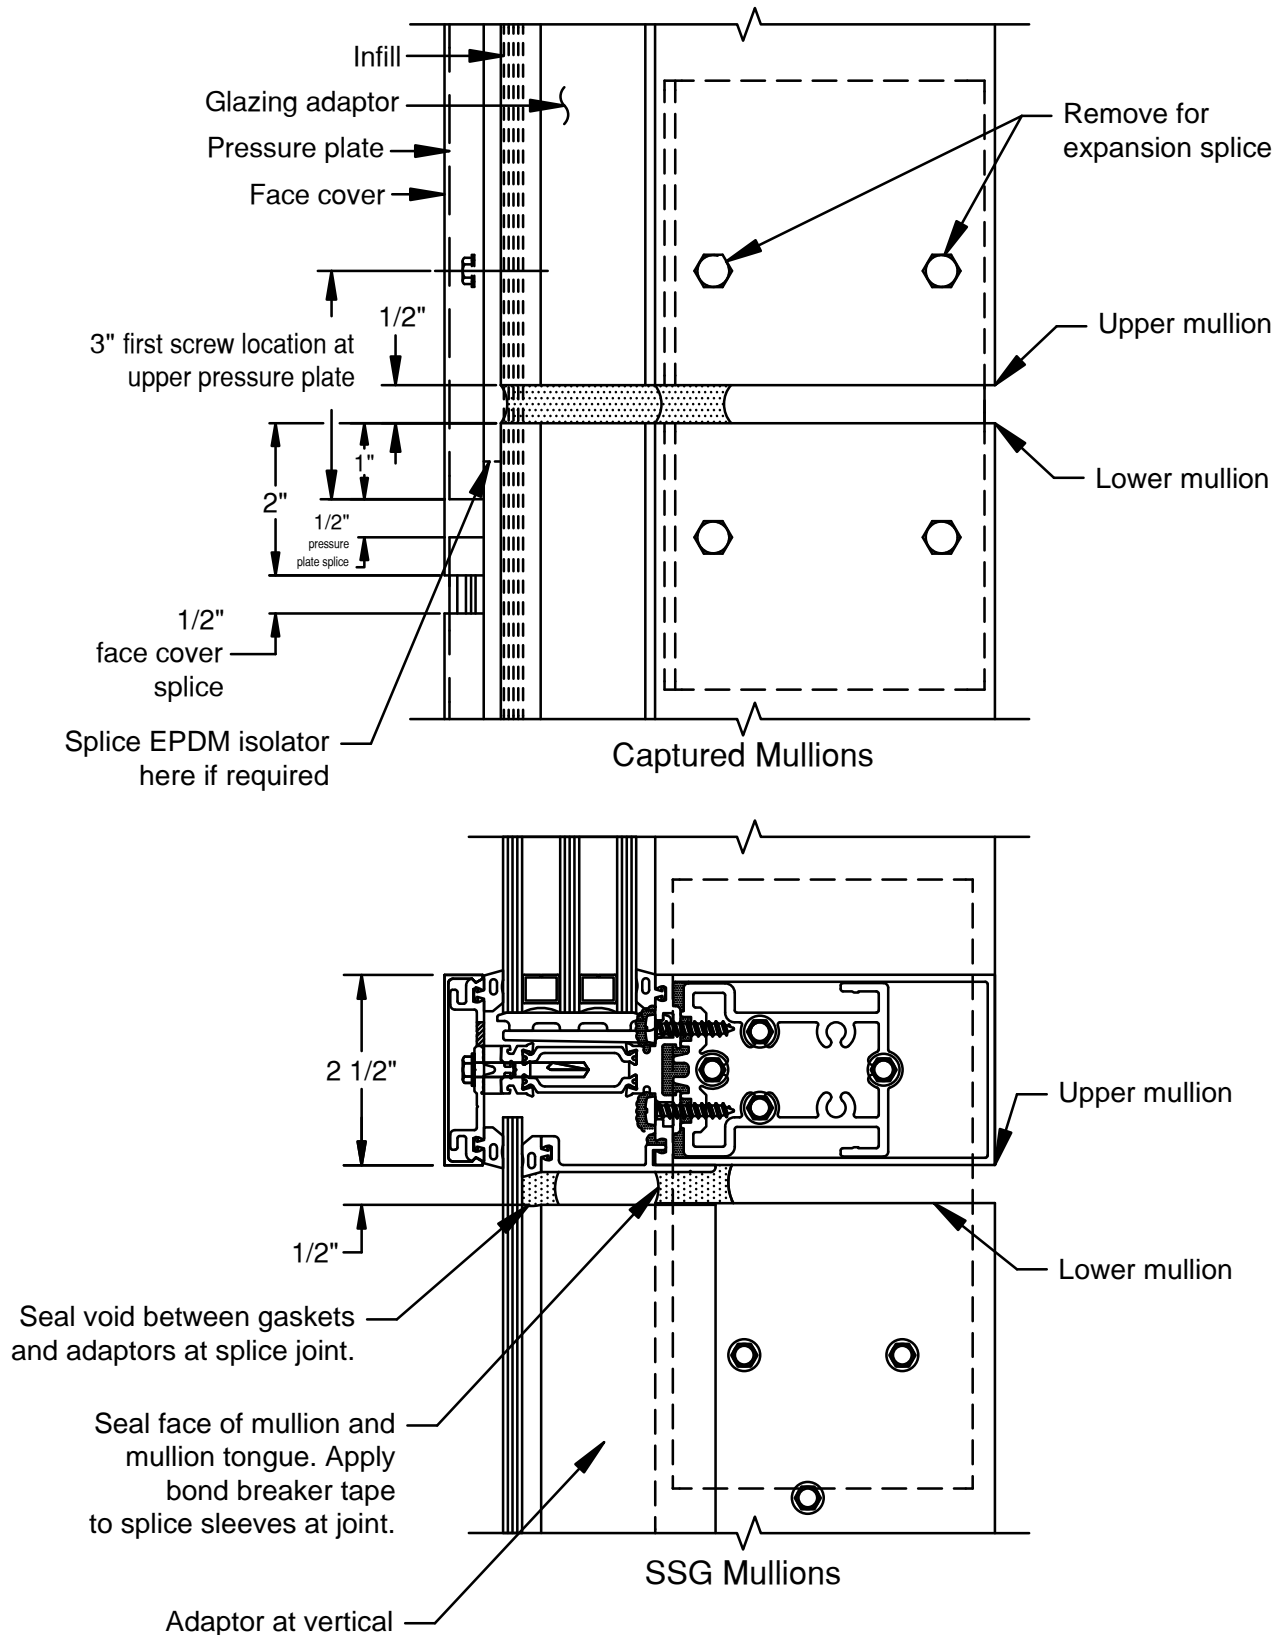
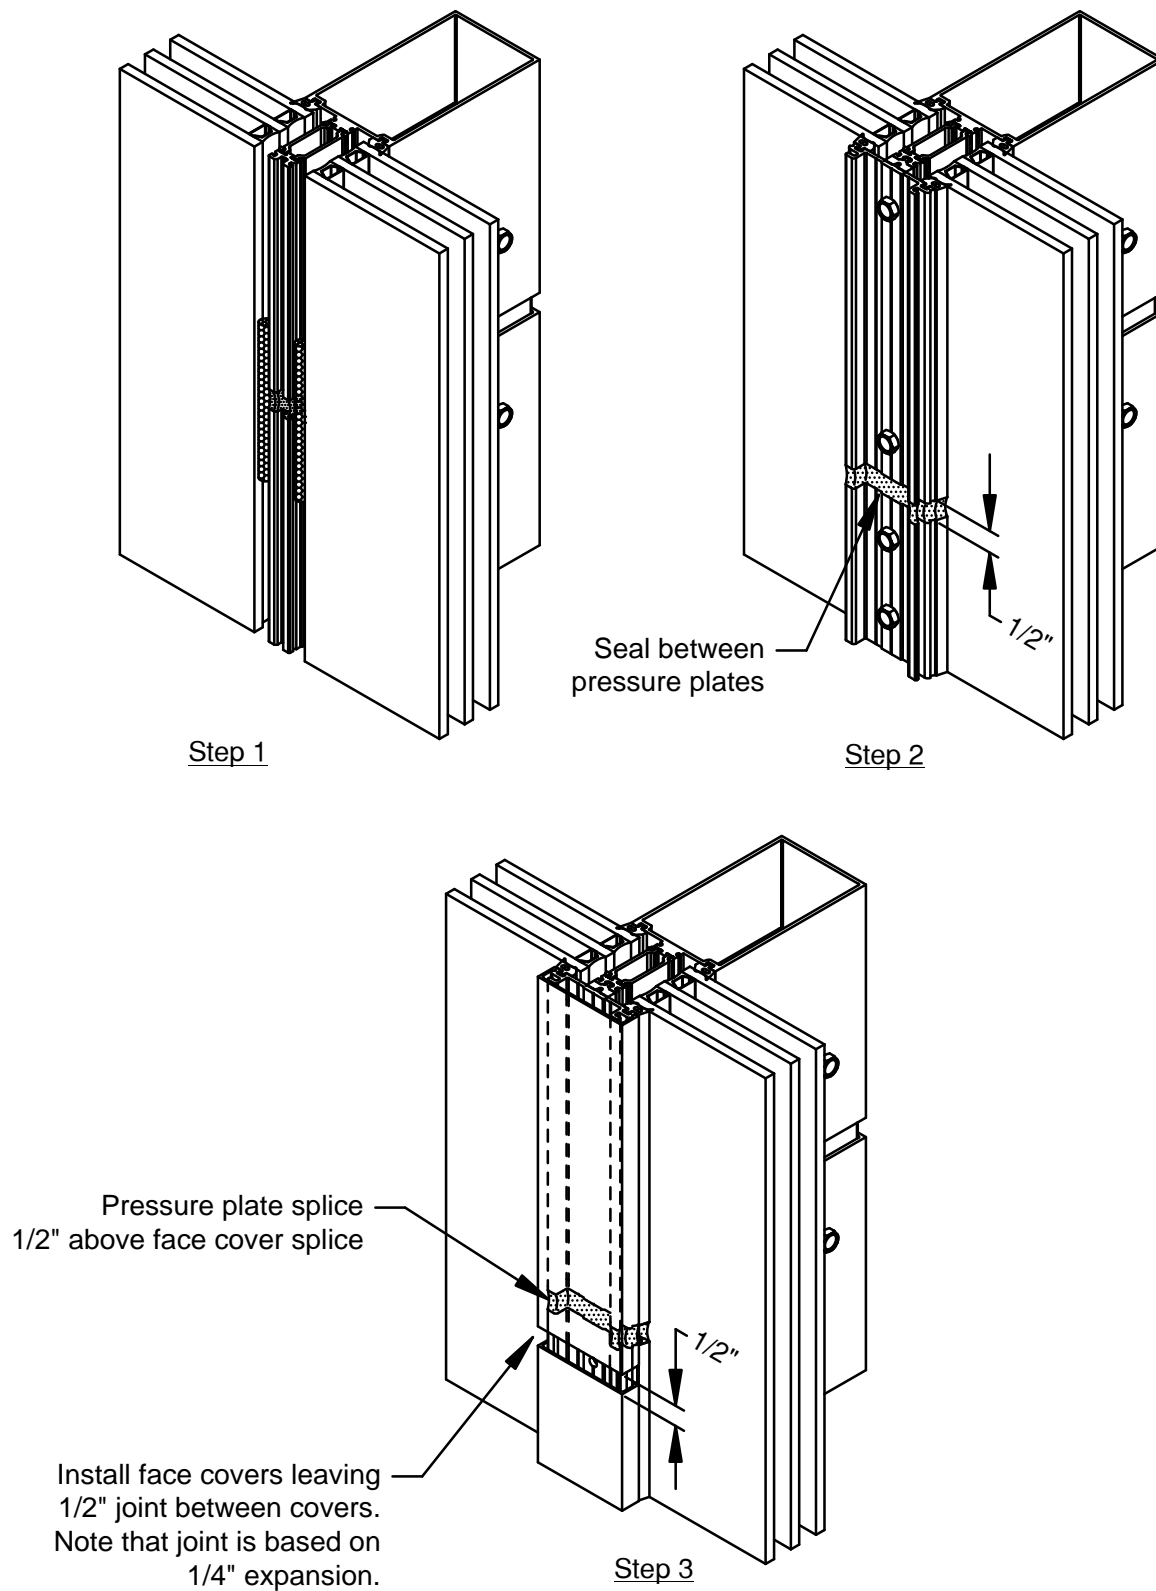

FIGURE 22
FIGURE 23
- B.3 Offset pressure plates and face covers per FIGURE 22, sealing pressure plate and face cover joints as shown in FIGURE 23, page 14.